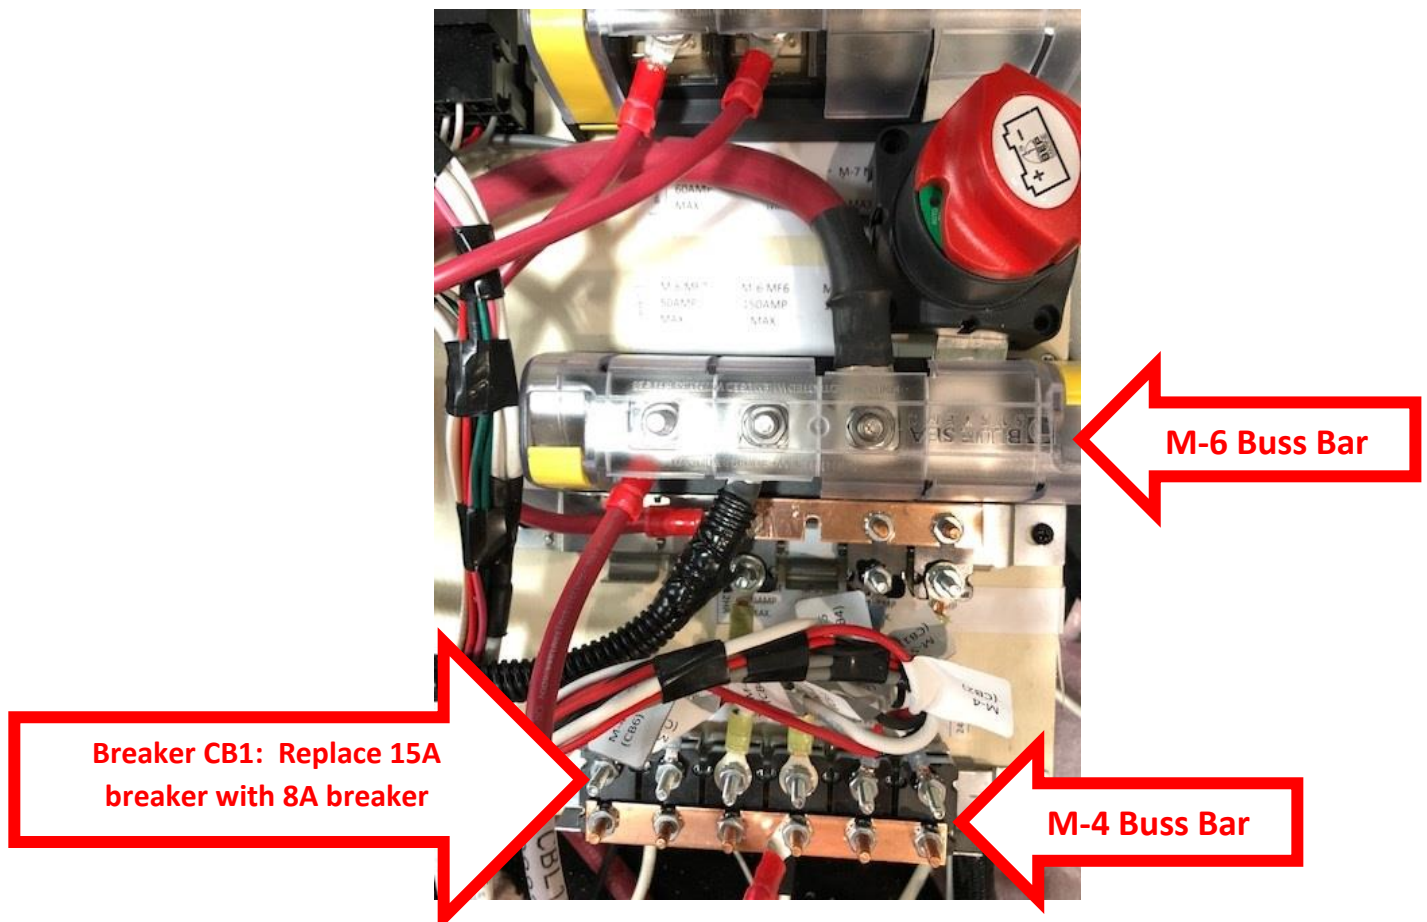

Figure 1
3. Disconnect CBL 18 (8 Ga. Red wire) from the M-4 buss bars upper CB4 location (see Figure 1). Tape off the connector end to prevent this wire from short circuiting. (CBL 18 is a 12VDC live wire coming from the 24-hour power, located on buss bar M-6).